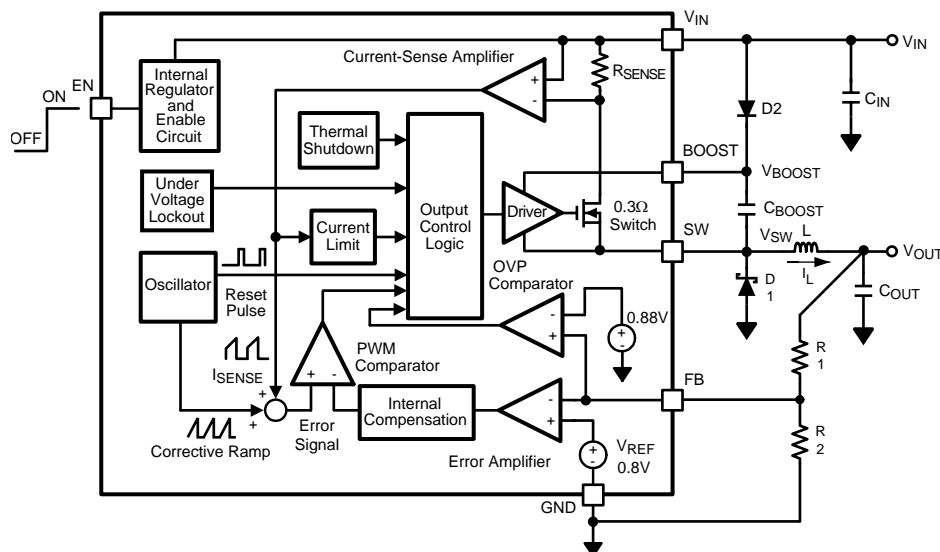
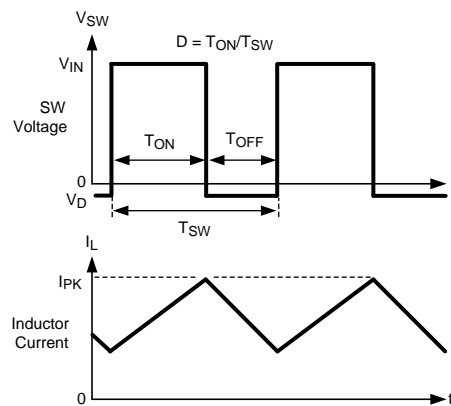

Figure 3.
Figure 4. LMR12010 Waveforms of SW Pin Voltage and Inductor Current
The following operating description of the LMR12010 will refer to the Simplified Block Diagram (Figure 3) and to the waveforms in Figure 4. The LMR12010 supplies a regulated output voltage by switching the internal NMOS control switch at constant frequency and variable duty cycle. A switching cycle begins at the falling edge of the reset pulse generated by the internal oscillator. When this pulse goes low, the output control logic turns on the internal NMOS control switch. During this on-time, the SW pin voltage (V_{SW}) swings up to approximately V_{IN} , and the inductor current (I_L) increases with a linear slope. I_L is measured by the current-sense amplifier, which generates an output proportional to the switch current. The sense signal is summed with the regulator's corrective ramp and compared to the error amplifier's output, which is proportional to the difference between the feedback voltage and V_{REF} . When the PWM comparator output goes high, the output switch turns off until the next switching cycle begins. During the switch off-time, inductor current discharges through Schottky diode D1, which forces the SW pin to swing below ground by the forward voltage (V_D) of the catch diode. The regulator loop adjusts the duty cycle (D) to maintain a constant output voltage.
In the Simplified Block Diagram of Figure 3, capacitor C_{BOOST} and diode D2 supply the gate-drive current for the NMOS switch. Capacitor C_{BOOST} is charged via diode D2 by V_{IN} . During a normal switching cycle, when the internal NMOS control switch is off (T_{OFF}) (refer to Figure 4), V_{BOOST} equals V_{IN} minus the forward voltage of D2 (V_{FD2}), during which the current in the inductor (L) forward biases the Schottky diode D1 (V_{FD1}). Therefore the voltage stored across C_{BOOST} is